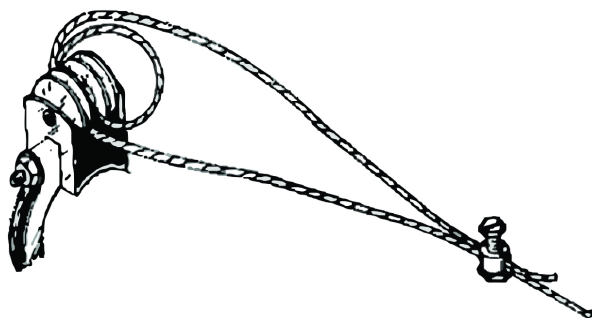

Figure 38. Anti-Roost Cable at the Hopper
2. Start at the hopper end of the line and form a loop around the anti-roost bracket. For best results, make a double loop around the anti-roost insulator in the center groove of the insulator and fasten with a 1/16" cable clamp as shown in **Figure 38.**